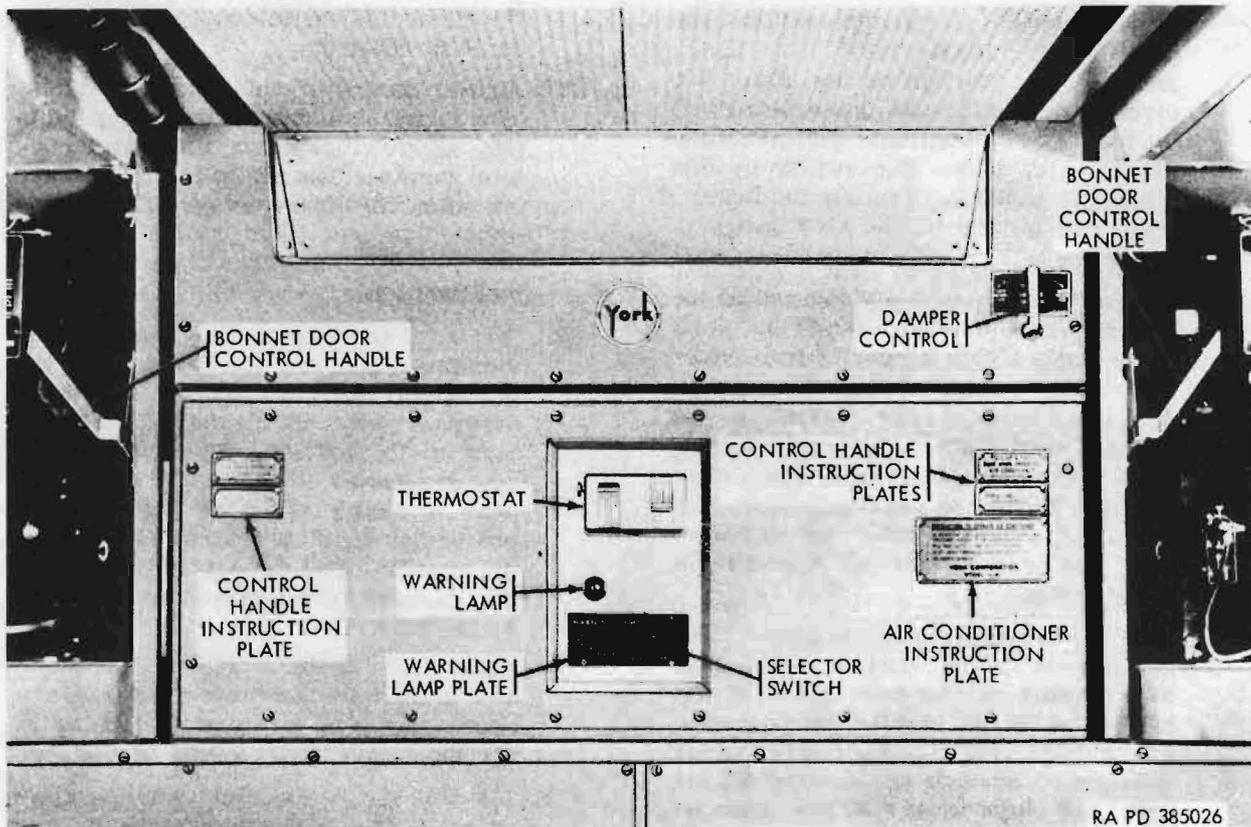
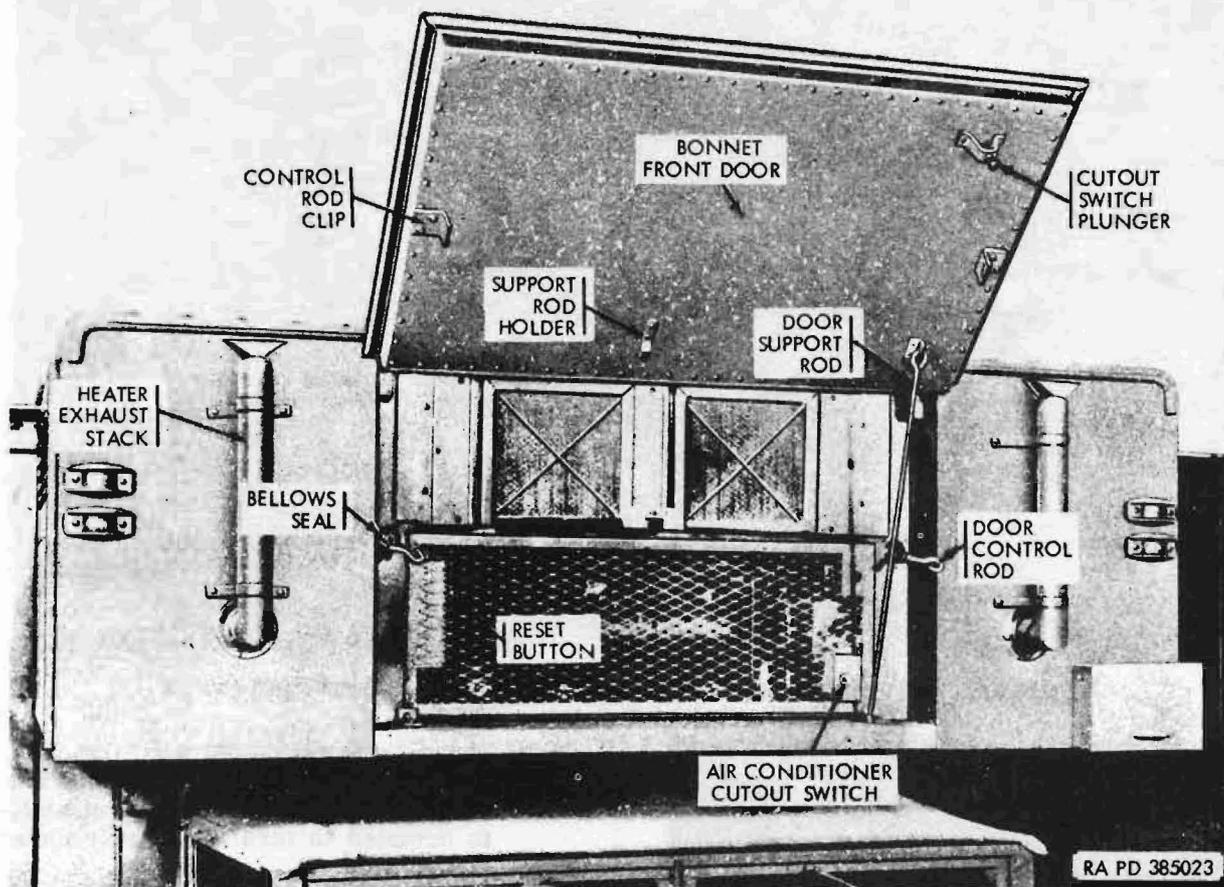

Figure 87. Air conditioner controls
Figure 88. Bonnet door in fully open position
- (24) Air conditioner bonnet front door control handles. The air conditioner bonnet front door control handles (fig. 87), located on either side of the air conditioner, are used to open and close the front door of the bonnet housing the air conditioner, and to open and close the drainage louvers in the bottom of the bonnet. It should be understood that opening and closing the bonnet
front door automatically actuates the air conditioner cutout switch, shown in figure 88, which controls the operation of the air conditioner warning lamp (fig. 87). The handles are essentially toggle levers attached to linkages which operate the bonnet door and drainage louvers. To open the bonnet front door and drainage louvers, pull both handles simultaneously upward and over to the extent of travel. To close the bonnet door and louvers, pull the handles simultaneously downward to the extent of travel.
- (25) Air conditioner selector switch. The air conditioner selector switch (fig. 87), located on the control panel at the center of the air conditioner, is used to turn the air conditioner on and off, and to select either of its two functions of circulating uncooled or cooled air. The switch is a 3-position, rotating type marked OFF, COOL, and FAN. To circulate uncooled air, place the switch in the FAN position. To cir-
- (26) Air conditioner damper control. The air conditioner damper control (fig. 87), located at the right of the air conditioner face, consists of a lever and linkage which open and close the air conditioner air intake louvers to regulate the proportion of inside and outside air drawn into the air conditioner. The positions of the damper control are shown on the instruction plate immediately above the control as follows: 100% RETURN AIR, NORMAL and 100% FRESH AIR. To vary the proportion of inside and outside air circulated by the air conditioner, place the control in the appropriate position.
- (27) Air conditioner reset button. The air conditioner reset button (fig. 88) is located on the starter box of the compressor motor and is accessible through the mesh guard at the front of the bonnet. It is essentially a combined circuit breaker and switch, and is used to restart the compressor motor
- (28) Air conditioner thermostat. The air conditioner thermostat (fig. 87), located on the air conditioner control panel, automatically controls the output temperature of the air conditioner. It is graduated in degrees (Fahrenheit) over a range of 58 to 92 and is marked every 10 degrees. To set the thermostat, turn the control knob until the desired temperature is indicated by the pointer.
- (3) Air conditioner warning lamp (fig. 87). The air conditioner warning lamp, located on the air conditioner control panel, indicates red when the air conditioner is operated with the bonnet front door closed. When the bonnet front door is opened, and the reset button is depressed, the warning light will go out.